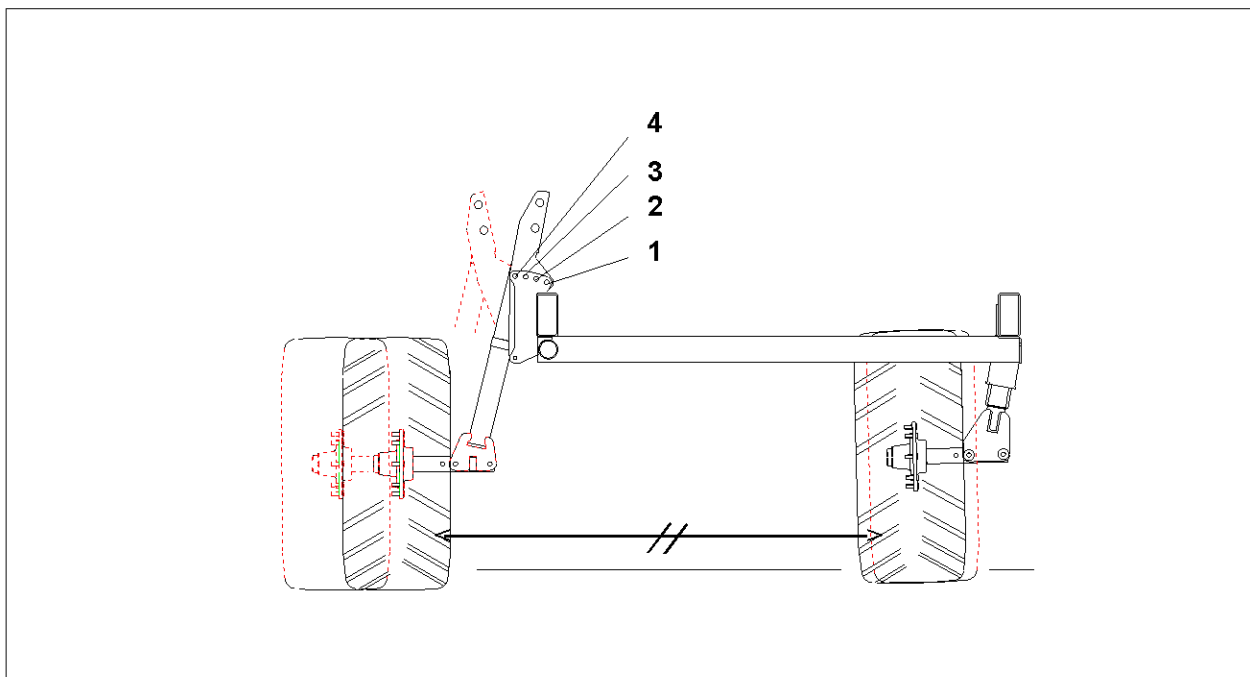
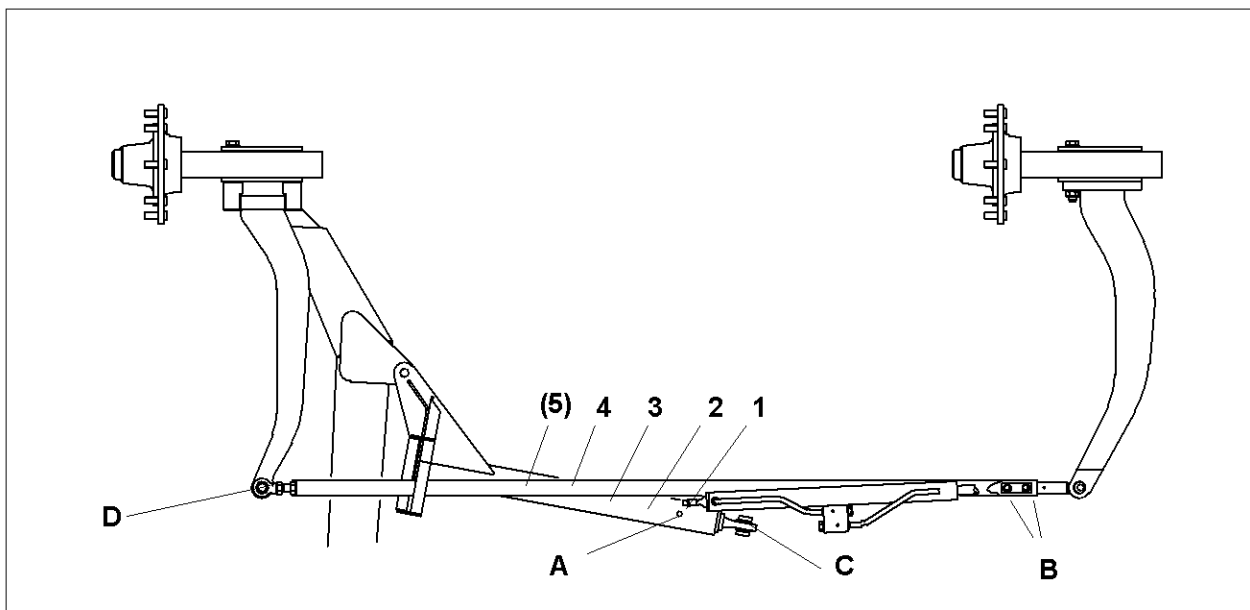

Fig. 44
Fig. 45
The track width suits 75-, 80-, 85-, and 90 cm row widths. The numbers 1,2,3,4 on fig. 44 and 45 corresponds to the various row widths (e.g. 1= 75cm , 2 = 80cm etc.)
Three bolt connections must be altered (see fig. 44 and fig. 45).
1. Raise the main frame by using the right hand side double acting hydraulic cylinder. Place a ramp underneath the main frame behind the right hand wheel. Lower the frame (using the cylinder) in order to free the wheel. Remove the bolt as shown in fig. 44. Now use the hydraulic cylinder to select desired hole (1-4). Insert the bolt in this new position. Re-tighten.
2. Remove bolt figure 45/A.
3. Remove the two bolts as indicated in fig.45/B. Now the telescopic stay (C) can be adjusted.
The telescopic stay has 4 holes (1-4). The bolt positions figs. 44 and 45/A must match, that is; pos.1 fig. 44 corresponds to pos.1 fig. 45.
4. Re-tighten bolts fig. 45/A and B.
Note! The bolts head at the parallel stay, fig. 45/B, must point downwards. This is to provide clearance to the hydraulic cylinder.
The two wheels must run in parallel. If not, this may cause excessive wear. Adjust by using screw fig. 45/D. Check distance between tyres (front and back) using a measurement device (rod or similar).